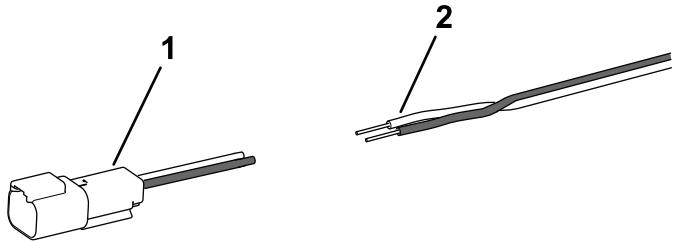

Figure 15
1. Cut off and discard the switch-harness connector and strip 10 mm (3/8 inch) of insulation off the wires (Figure 15).